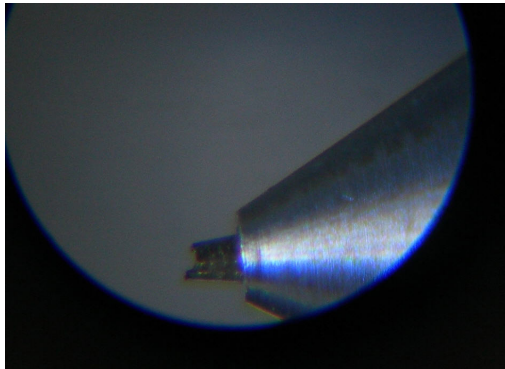

Figure 28 Corroded needle in nebulizer
- When the needle appears to be corroded or damaged. See Figure 28.